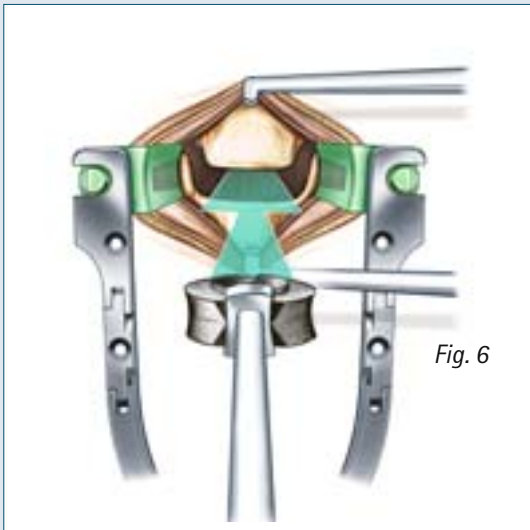

Fig. 6
- Once CeSpace is attached to the inserter, it can be introduced into the intervertebral space using image converter monitoring (Fig. 6).